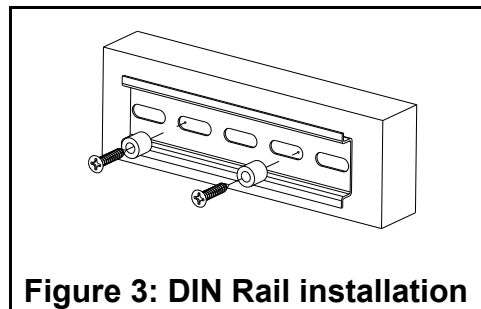

Figure 3: DIN Rail installation
2. Using the screws and spacers supplied, install the DIN Rail as shown in figure 3.